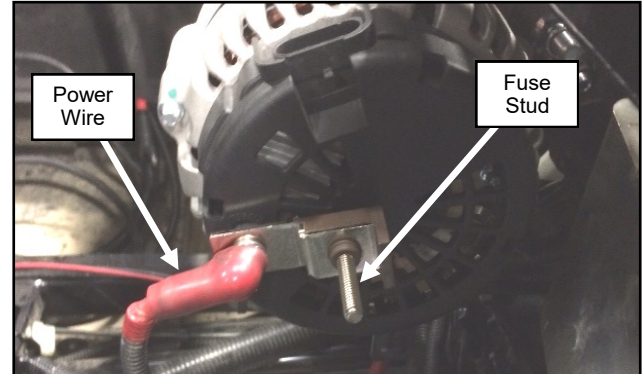

Fig. 4.3 (Install Vehicle's Power Wire)
- 4.3** Install Fuse Mounting Bar and the vehicle's power wire (disconnected on step 2.17) to the back of the alternator power stud as shown in fig 4.3.